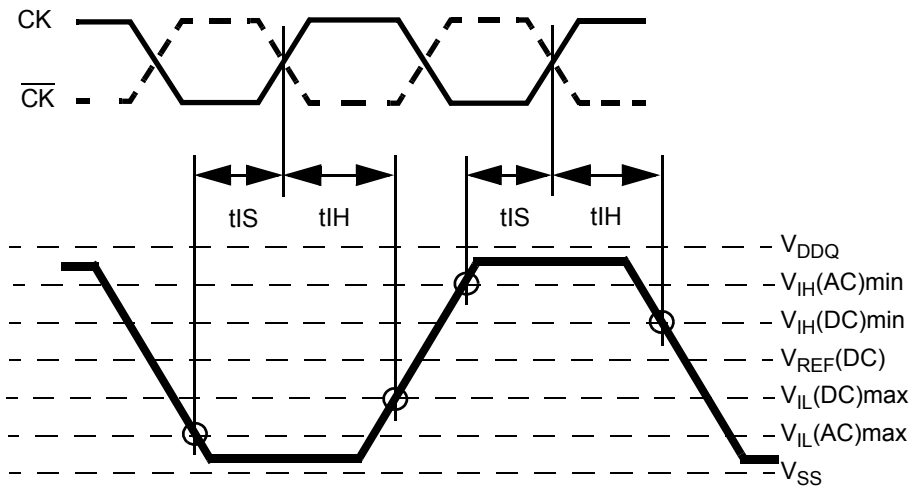

Figure 21. Differential input waveform timing -  $t_{IS}$  and  $t_{IH}$
22. Input waveform timing is referenced from the input signal crossing at the  $V_{IH}(AC)$  level for a rising signal and  $V_{IL}(AC)$  for a falling signal applied to the device under test. See Figure 21.
23. Input waveform timing is referenced from the input signal crossing at the  $V_{IL}(DC)$  level for a rising signal and  $V_{IH}(DC)$  for a falling signal applied to the device under test. See Figure 21.